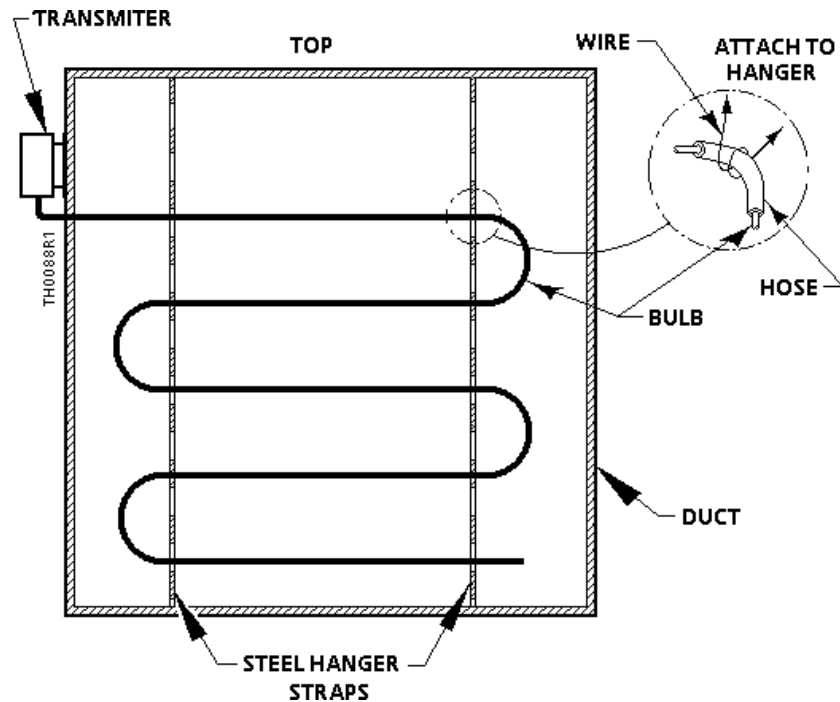

Figure 1. Typical Mounting in Walk-in Duct.
Large walk-in Ducts (Figure 1)
6. Mount the bulb in a horizontal, serpentine manner, attaching the bulb to the strap as shown in detail in *Figure 1*.